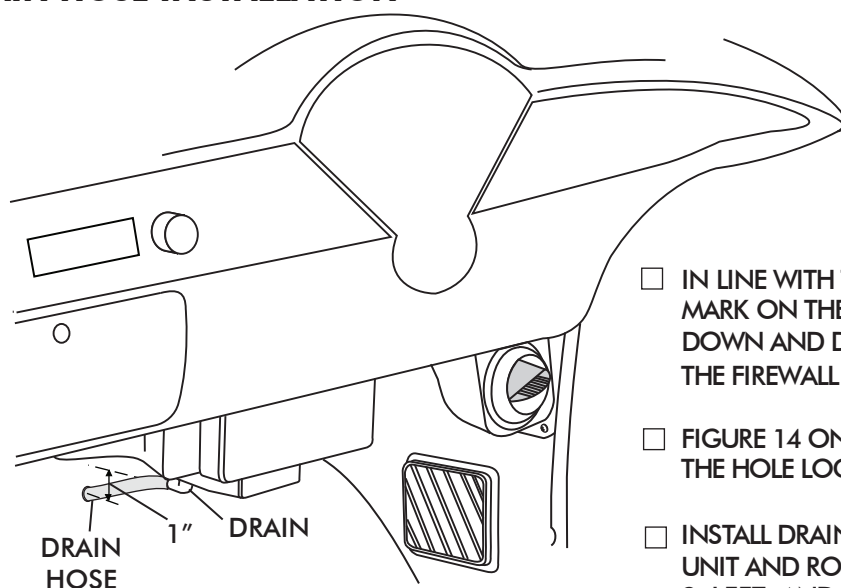
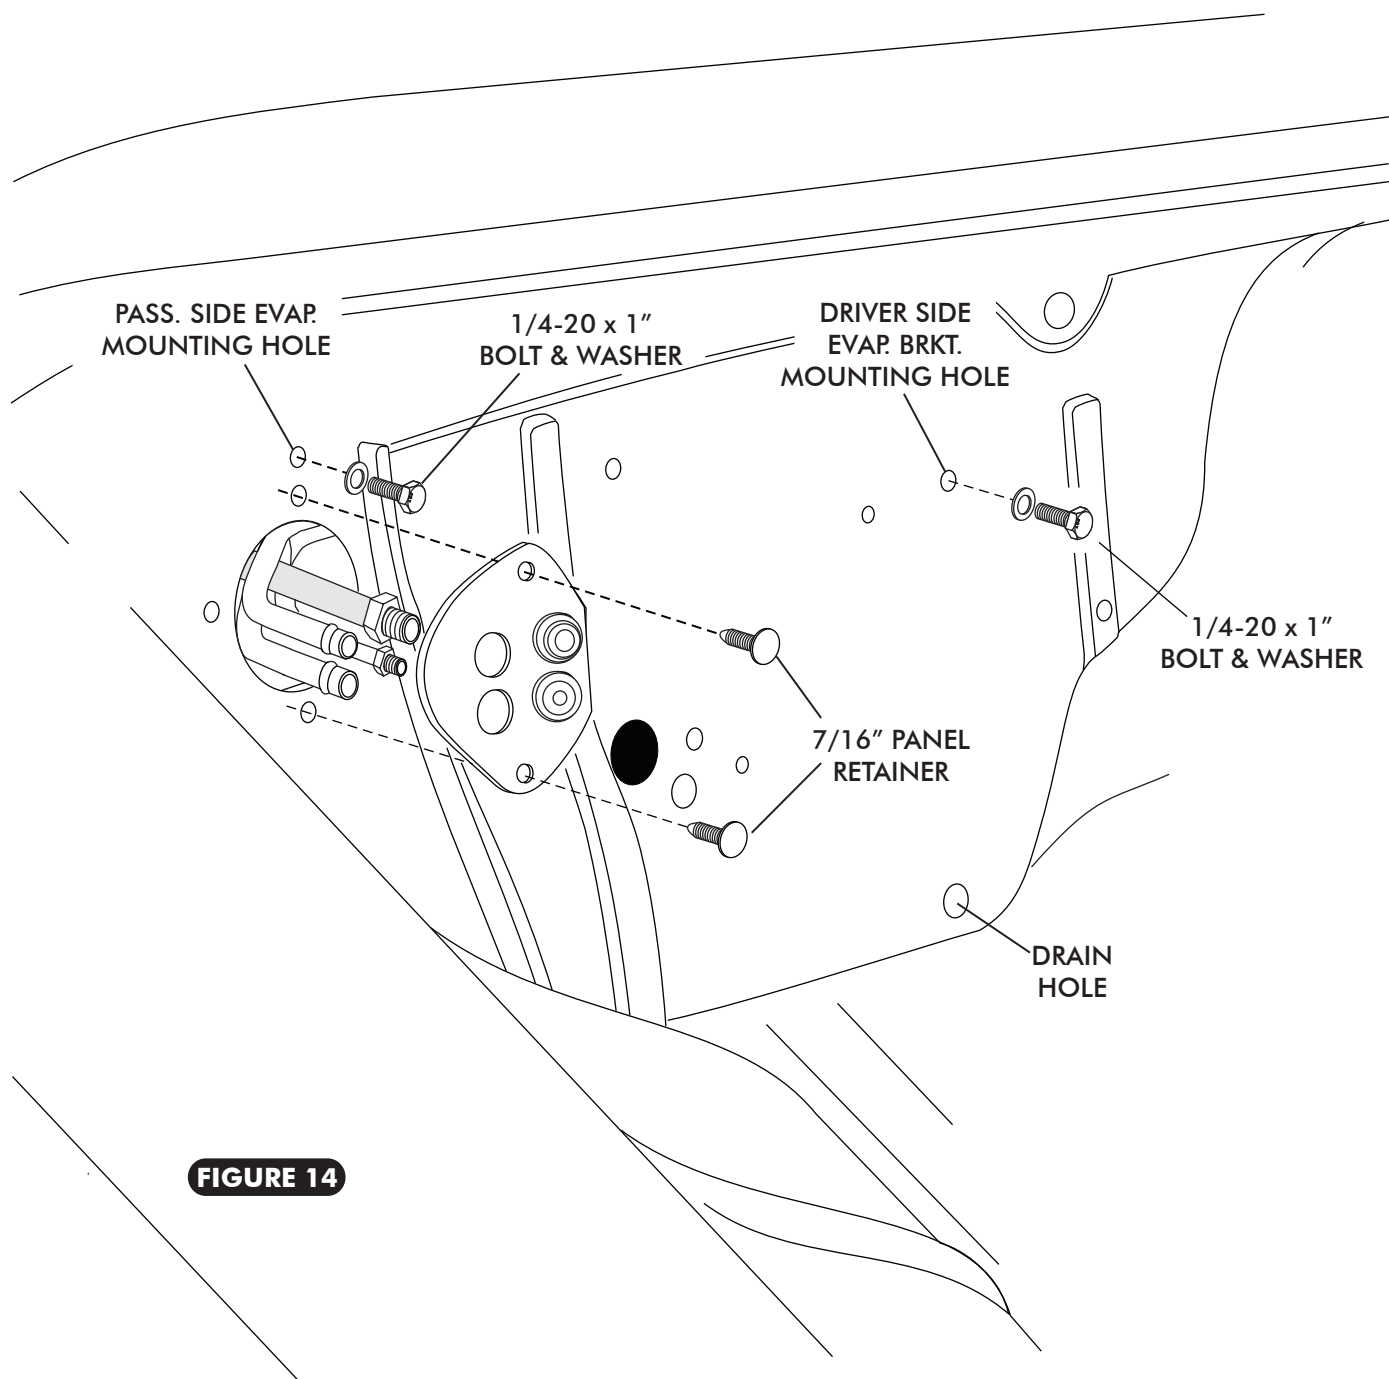

FIGURE 9
FIGURE 14
- ☐ IN LINE WITH THE DRAIN, LIGHTLY MAKE A MARK ON THE FIREWALL. MEASURE ONE INCH DOWN AND DRILL A 5/8" HOLE THROUGH THE FIREWALL. SEE FIGURE 9.
- ☐ FIGURE 14 ON PAGE 15 WILL SHOW YOU ROUGHLY THE HOLE LOCATION.
- ☐ INSTALL DRAIN HOSE TO BOTTOM OF EVAPORATOR UNIT AND ROUTE THROUGH FIREWALL. SEE FIGURE 9, LEFT, AND FIGURE 14, PAGE 15.
- ☐ INSTALL FIREWALL COVER. SEE FIGURE 14, PAGE 15.
- PASS LINES THROUGH FIREWALL COVER, AND SECURE WITH (2) 7/16" PANEL RETAINERS. SEE FIGURE 14, BELOW.